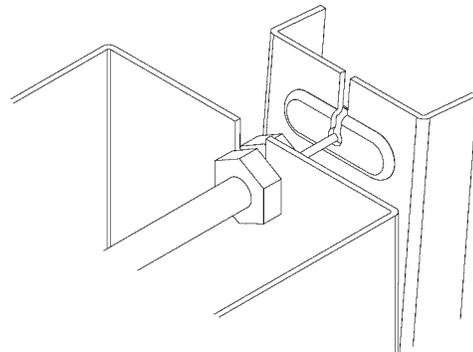

FIG. 7
See Fig. 7
1. Assemble the operating cable to the fountain bracket. (Fountain should be mounted to exterior wall) Create a loop in the cable and thread the free end of the cable through the wall into the freeze resistant box. The adjustment nuts should be in the middle of threaded area on the operating cable. See Figure 7